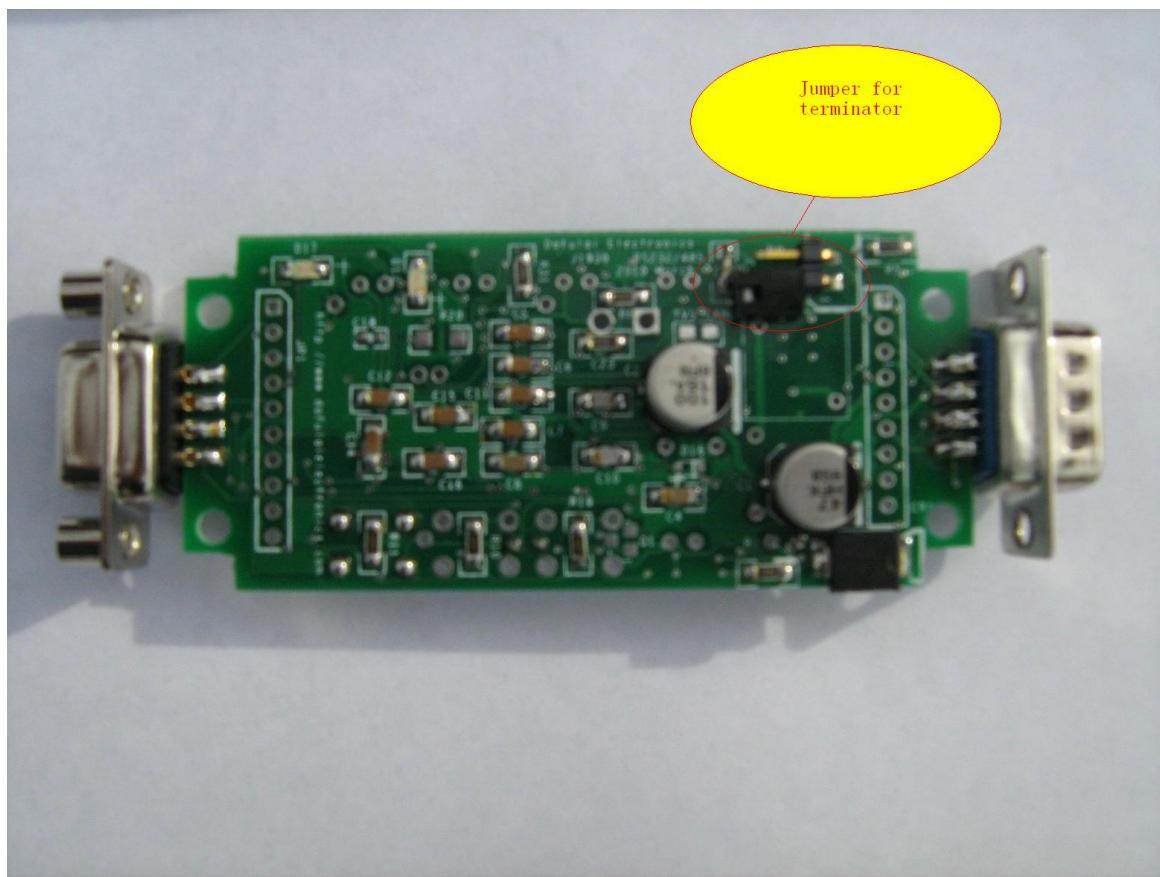

Fig.4 Jumper for 120 ohm's terminator
- 3 The default status is that there is a 120 Ohms' resistor between the terminal "CANH" and "CANL" in the box of the simulator. If your simulator is not last one or first one in the CAN BUS, please open the box of the simulator and make the jumper open in the Fig.4